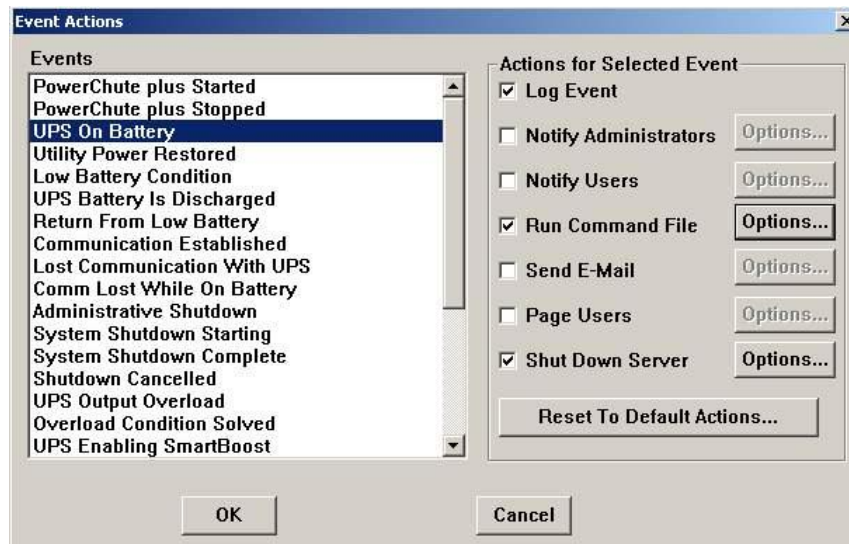

Fig. 4.4 – 14 Configuring UPS On Battery events
1. In the list of events, select the event **UPS On Battery** and, for this event, select the **Run Command File** check box (Fig. 4.4 – 14).
2. To the right of **Run Command File**, click the **Options...** button (see Fig. 4.4 – 14).